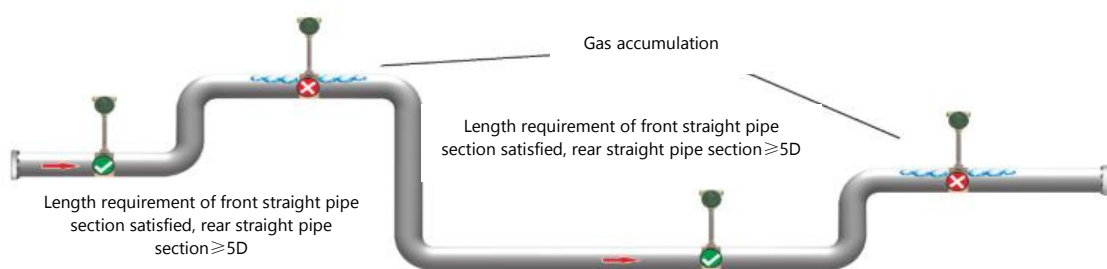

Fig.3 Schematic diagram of sensor shock absorption support
(2) The inner diameter of upstream and downstream piping shall be the sensor diameter. If it is not, pipes that are slightly larger than the sensor diameter shall be used, The error shall be $\leq + 3\%$, and do not exceed 5mm; piping shall be concentric with the sensor, axiality $< 0.05D$; gasket shall not protrude into the pipe and the inner diameter shall be larger than the sensor diameter (1-2) mm.
(3) To avoid the influence of pipeline vibration, it should be considered to add fixed support about 2D upstream of the flowmeter or add elastic hose on the premise of satisfying the length requirement of straight pipe section before adding support.(Fig.3)